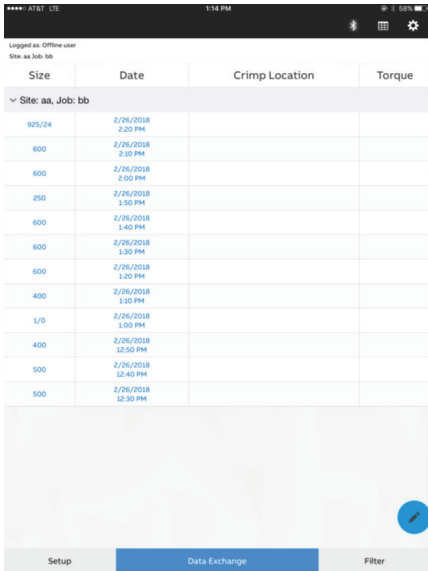

Figure 04
- Add crimp location, torque value, comments or photos by touching the spaces and adding the data manually (Figure 04)